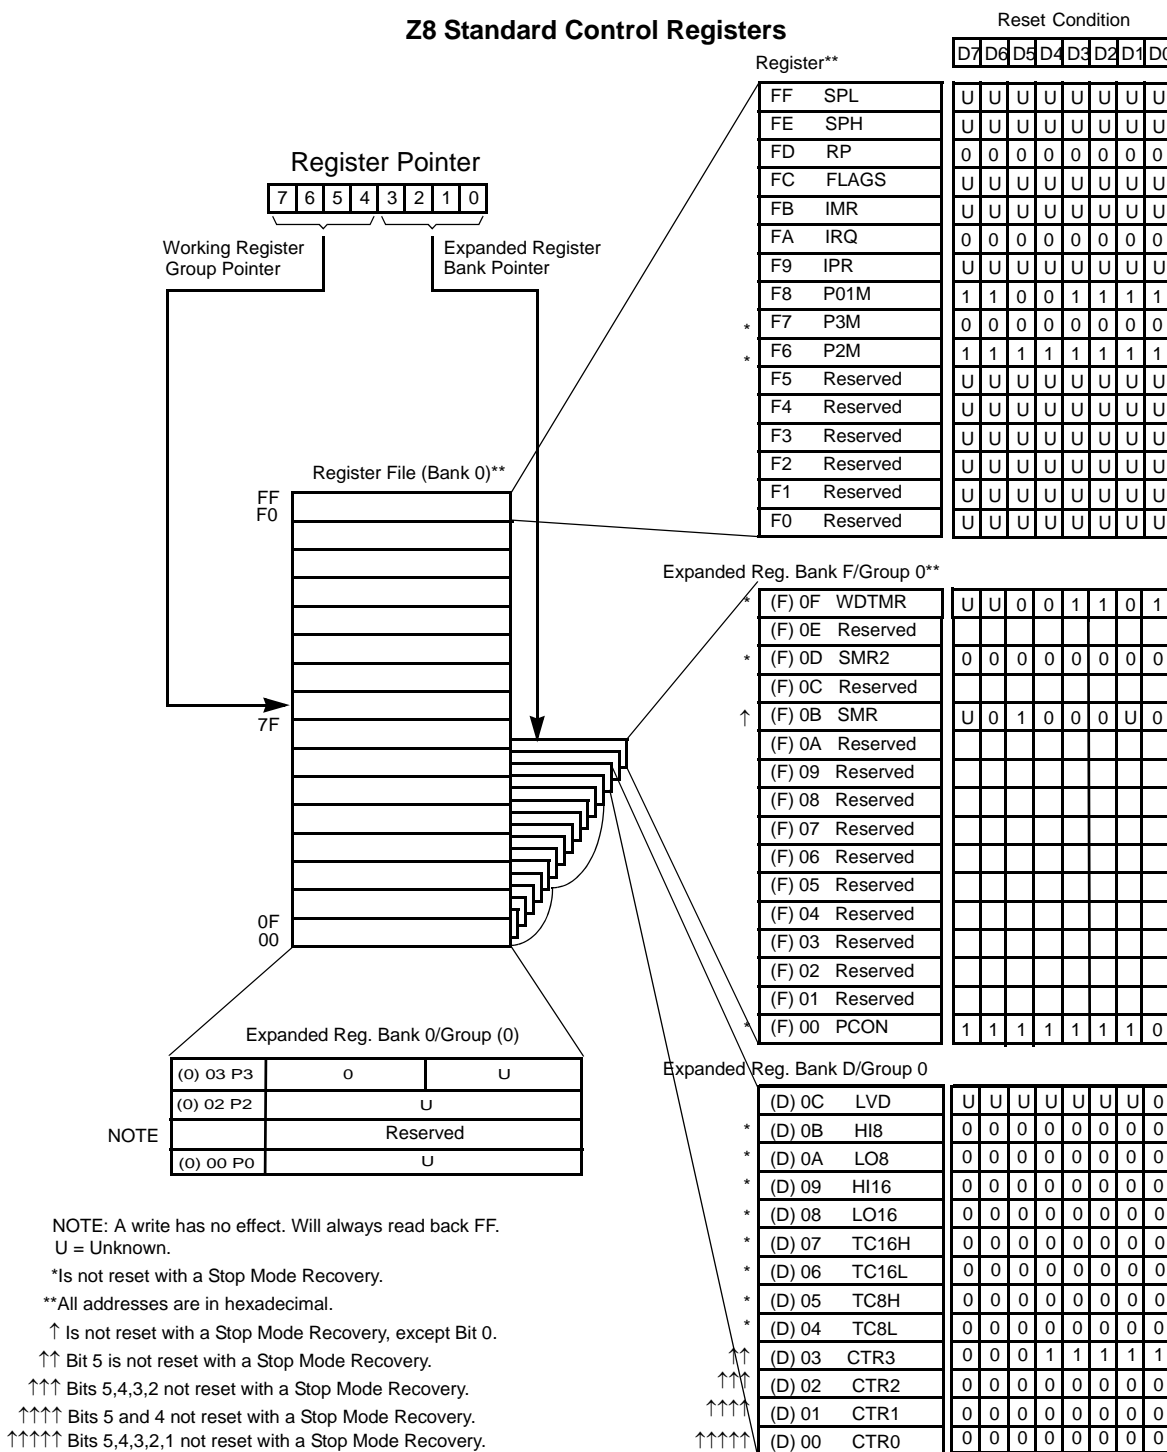

Figure 10. Expanded Register File Architecture
- **Note:** *An expanded register bank is also referred to as an expanded register group (see Figure 10 on page 17).*
Example: (See Figure 10 on page 17)